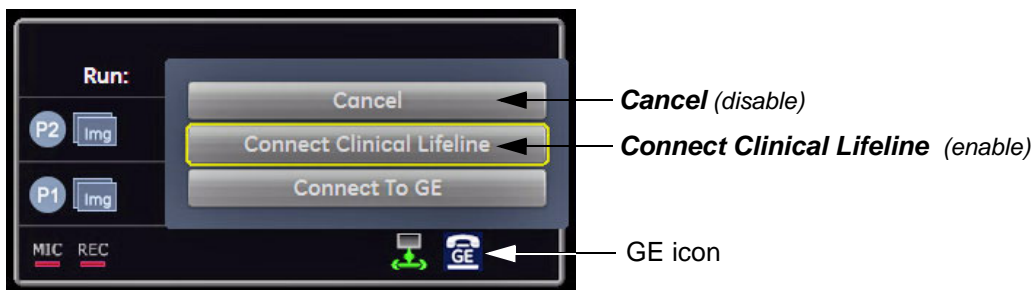

Figure 7-14 Connect Clinical Lifeline
- 3.) Select **Connect Clinical Lifeline** (see: Figure 7-14 below).